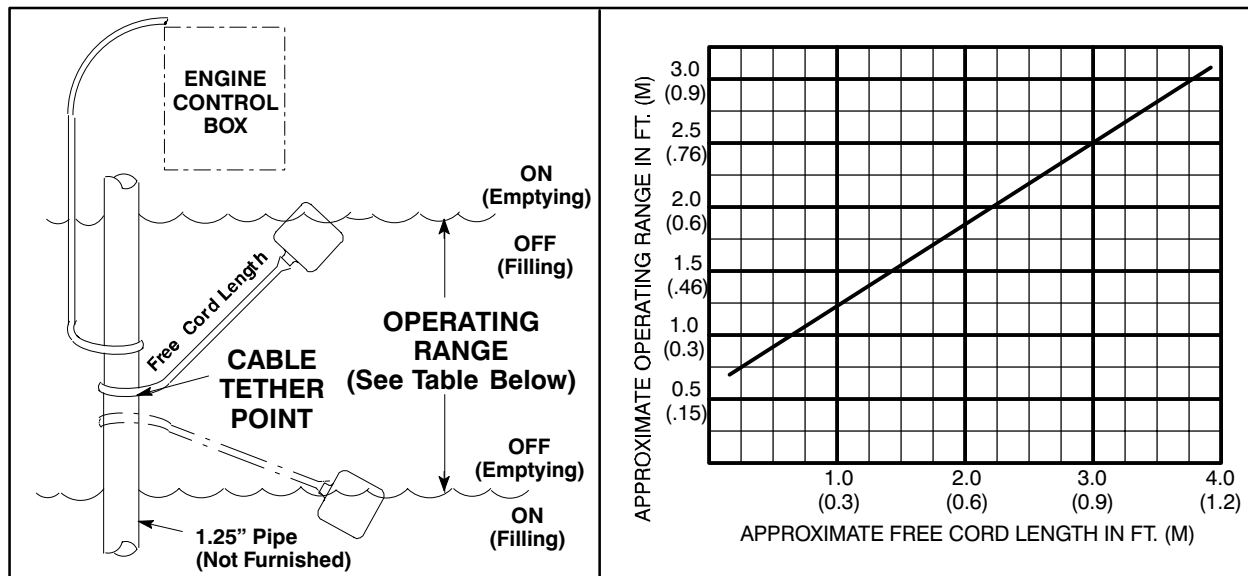

Figure B-5. Float Switch Data
- d. Refer to Figure B-5 for additional float switch data.